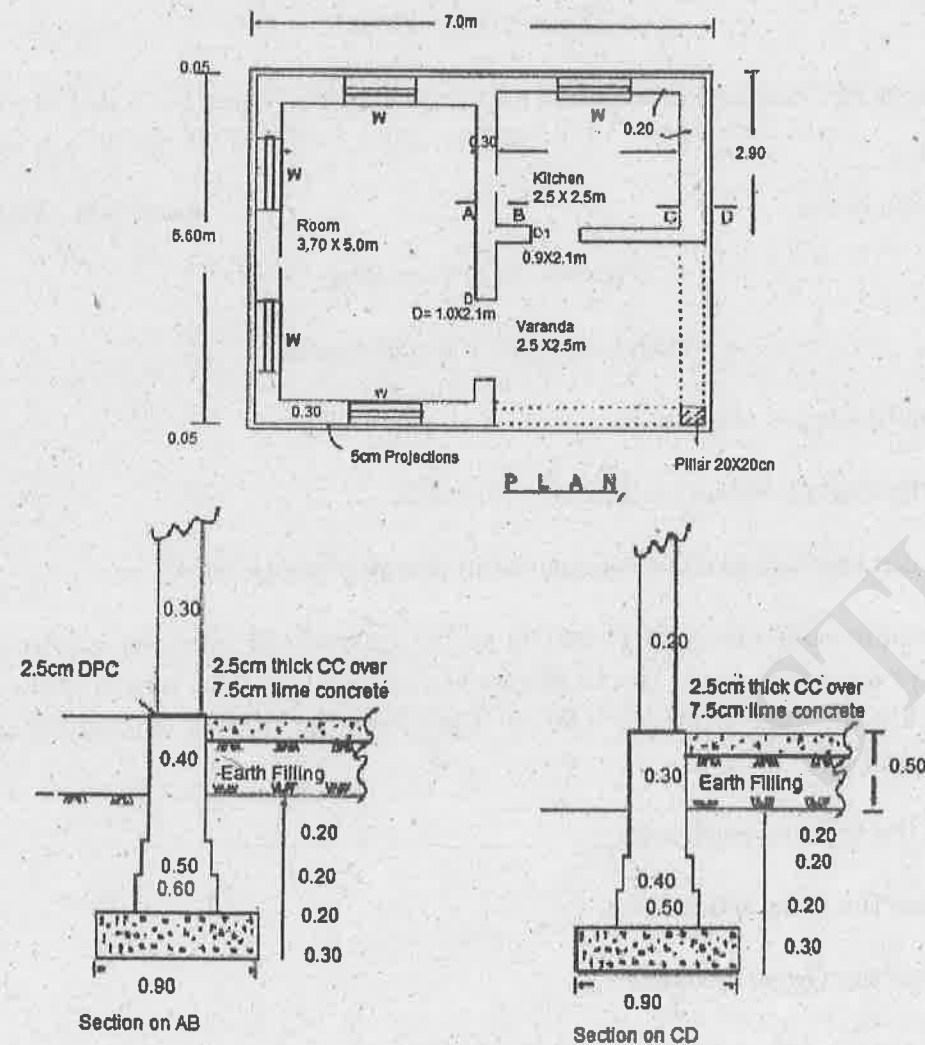

Figure Q. 11
11. (a) Prepare the Detailed Estimate for the following items of works are given in Figure Q. 11.
- Earth work in excavation in foundation in ordinary soil (5)
- Earth work in filling under floors (4)
- Cement concrete in foundations. (4)
- (b) The Plan and sectional elevation of the building are given in Figure Q. 11. Estimate the quantities for the following items of works.
- First class brick work in foundation and plinth in cement mortar (1:6) (8)
- D.P.C (2.5 cm thick) with cement mortar (1:1.5:3). (5)